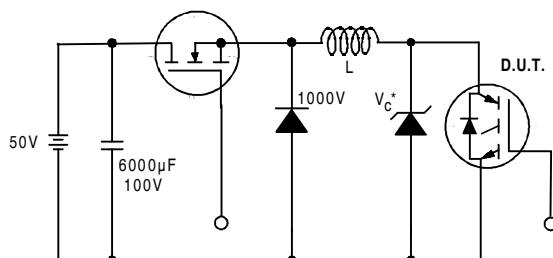

Figure 19. Clamped Inductive Load Test Circuit
- ② $V_{CC}=80\% (V_{CES})$, $V_{GE}=20V$, $L=10\mu H$, $R_G=5.0\Omega$ (figure 19)
- ③ Pulse width $\leq 80\mu s$; duty factor $\leq 0.1\%$.
- ④ Pulse width $5.0\mu s$, single shot.